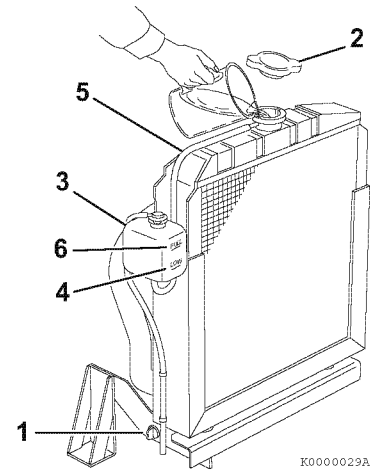
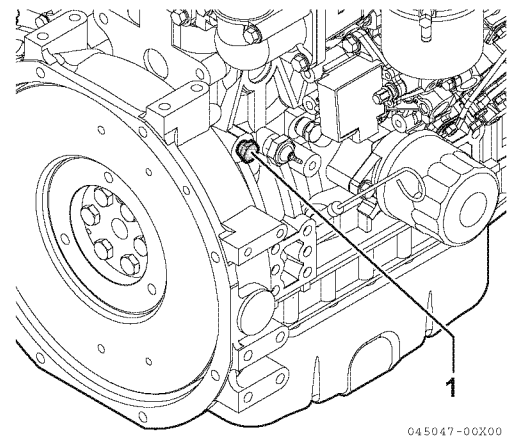

Figure 5
Figure 6
1. Check to be sure the radiator drain plug is installed and tightened or the drain valve (1, **Figure 5**) is closed. Also make sure the coolant drain plug (1, **Figure 6**) in the cylinder block is closed.
- Remove the radiator cap (2, **Figure 5**) by turning it counterclockwise about 1/3 of a turn.
- Reinstall the radiator cap (2, **Figure 5**). Align the tabs on the back side of the radiator cap with the notches on the engine coolant filler port. Press down and turn the cap clockwise about 1/3 of a turn.
- Remove the cap of the reserve tank (3, **Figure 5**), and fill it to the LOW (COLD) mark (4, **Figure 5**) with engine coolant. Reinstall the cap.
- Check the hose (5, **Figure 5**) that connects the reserve tank (3, **Figure 5**) to the radiator. Be sure it is securely connected and there are no cracks or damage. If the hose is damaged, engine coolant will leak out instead of going into the reserve tank.
- Run the engine until it reaches operating temperature. Check the level of engine coolant in the reserve tank. When the engine is running and the engine coolant is at normal temperature, the coolant level in the reserve tank should be at or near the FULL (HOT) mark (6, **Figure 5**). If the coolant is not at the FULL (HOT) mark, add coolant to the reserve tank to bring the coolant level to the FULL (HOT) mark.
- Check the level of engine coolant in the reserve tank. When the engine is cold, the coolant level in the tank should be at or slightly above the LOW (COLD) mark (4, **Figure 5**) on the coolant reserve tank.
If the coolant level is at the FULL (HOT) mark (6, **Figure 5**) when the engine is cold, the coolant will expand when it becomes hot and possibly spray out of the overflow hose.